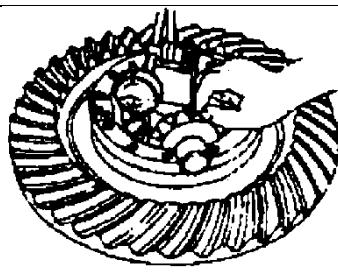

Figure 3-14
3) Measuring and noting the gaps of the gears (Figure 3-14).